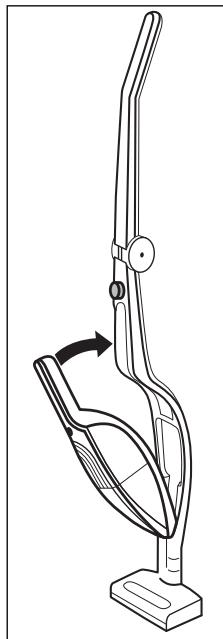

Fig. 1
- Then press the grip 1 of the hand element 5 into the handle so that the hand element 5 clicks firmly into position (Fig. 1).